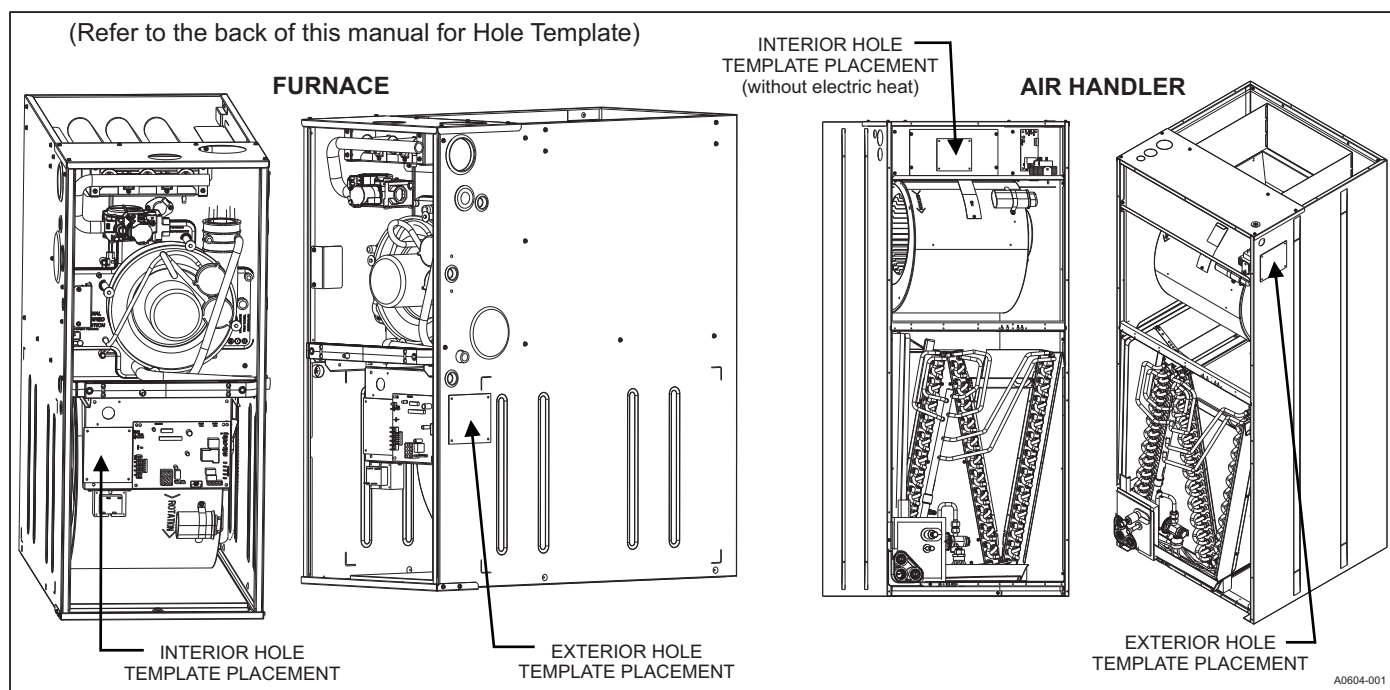

FIGURE 2: Possible Mounting Locations in Furnace
1. Use the template at the end of this document to mark four holes inside the control assembly area or the outside of the indoor unit See Figure 2.